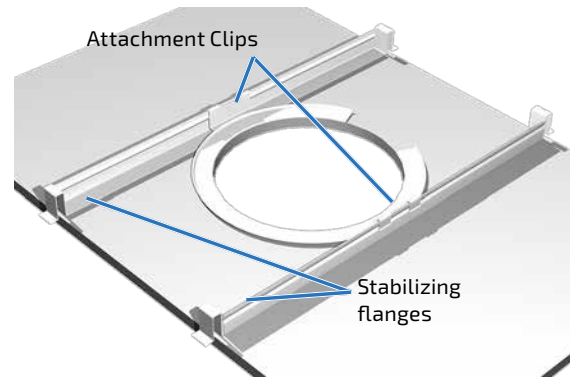
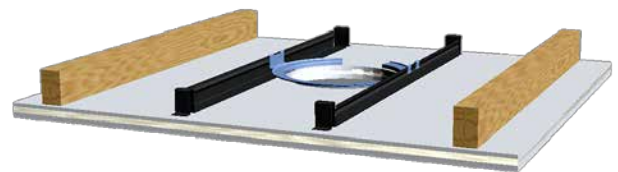

Figure 8. Installing a C-ring support plate onto tile bridge support rails
Figure 11. New installation in an existing drywall ceiling using the Tile Bridge Support Rails and C-ring Support Plate.
2. Insert the bridge support rails through the can cutout and position them across the rails on either side of the cutout, approximately as far apart as the clips on the C-ring support plate. See Figure 8.
3. Guide the C-ring support plate through the cutout hole and position it centered in the hole and aligned so its attachment clips are closest to the tile bridges you just placed. Slide these bridges as necessary so the C-ring clips can be pressed onto the raised rail ribs, and now snap the C-ring clips onto the rails (Figure 8).
B. An alternative method for new installations – where the ceiling has already been completed – is to use the C-ring Support Plate along with the Tile Bridge Support Rails. While there are in fact not going to be truss members across which the rails fit, nonetheless they will distribute the weight of the loudspeaker assembly across a greater area than the C-ring Adapter alone and will thus avoid sagging that might otherwise occur over time. Cut the hole using the provided template. It is then easy to pass the Tile Bridge Support Rails through the cutout and snap the C-ring Support Plate on top of them. Refer to Figure 8 and to Figure 11.